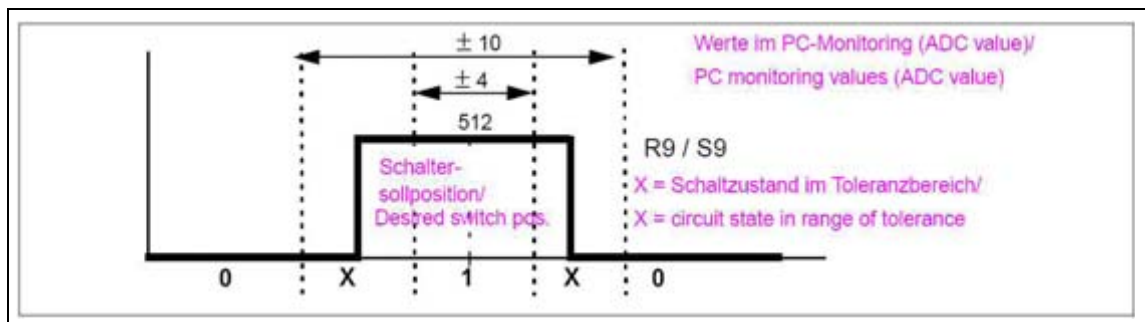

Fig. 8: Switching hysteresis S9
- Check the switching hysteresis of the reference switch S9 according to (Fig. 8 / p. 43).